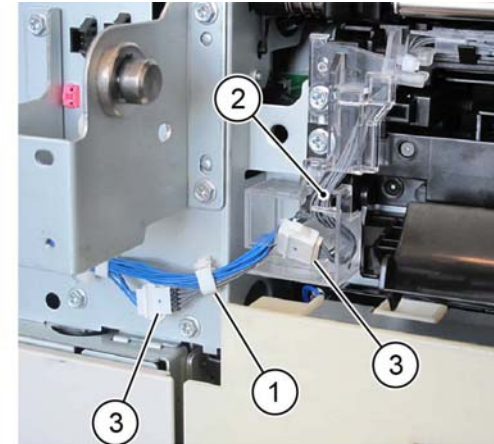

Figure 2 Connectors
5. Disconnect the connectors, Figure 2:
- a. Release the harness from the retainer (1).
- b. Release the harness from the harness holder (2).
- c. Disconnect two connector (3).